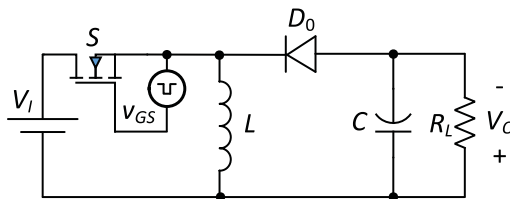

Figure 12.1 Circuit diagram of the PWM buck–boost dc–dc converter.
1. Construct the circuit of the buck–boost converter shown in Figure 12.1 on the circuit simulator. Name all the nodes and components for convenience.